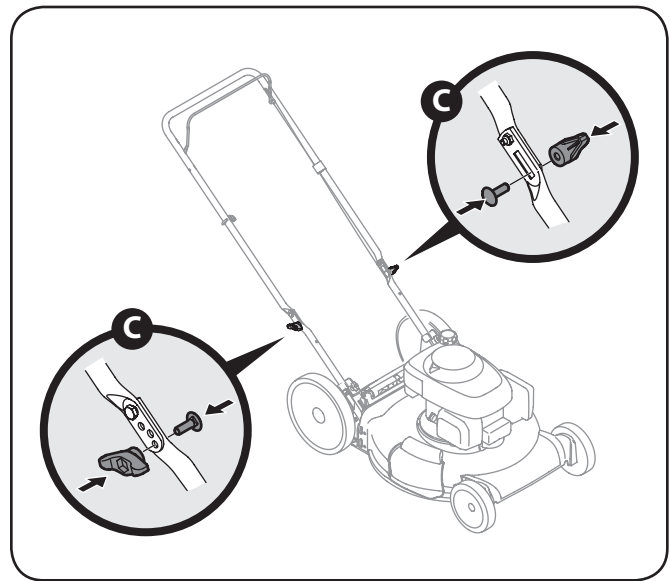

Figure 3-5
- c. Reattach wing nuts and carriage bolts removed earlier into lower holes of handle as shown in Figure 3-5.